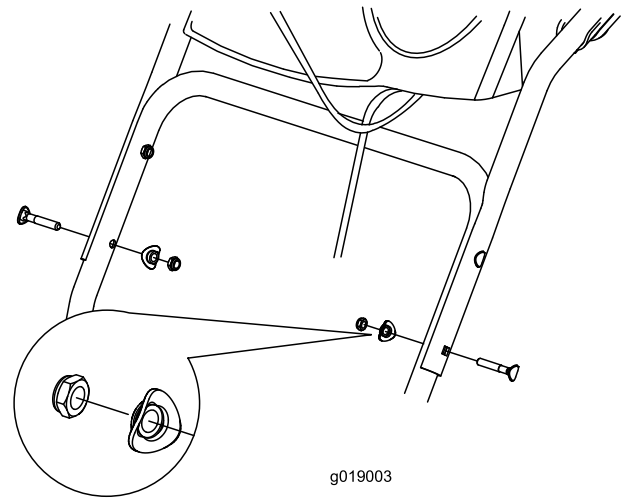

Figure 4
1. Lift and rotate the upper handle and position it over the lower handle (Figure 4).
2. Install 2 handle bolts, 2 curved washers, and 2 locknuts in the lower-handle holes (Figure 4).